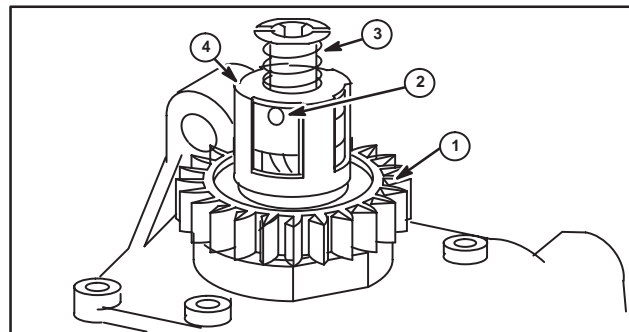

Fig. 42
Assemble Starter Motor Drive, Fig. 42
1. Reverse disassembly procedure for assembling. Assemble the pinion gear with beveled edge on the gear up as shown in Fig. 42.
3. Press or drive new roll pin through retainer slot and armature shaft hole with roll pin slot positioned as shown (2). The roll pin should be centered in shaft within 1/32" (.8 mm). **ASSEMBLE WITH NEW ROLL PIN ONLY.** Optional spring (3), retainer (4).